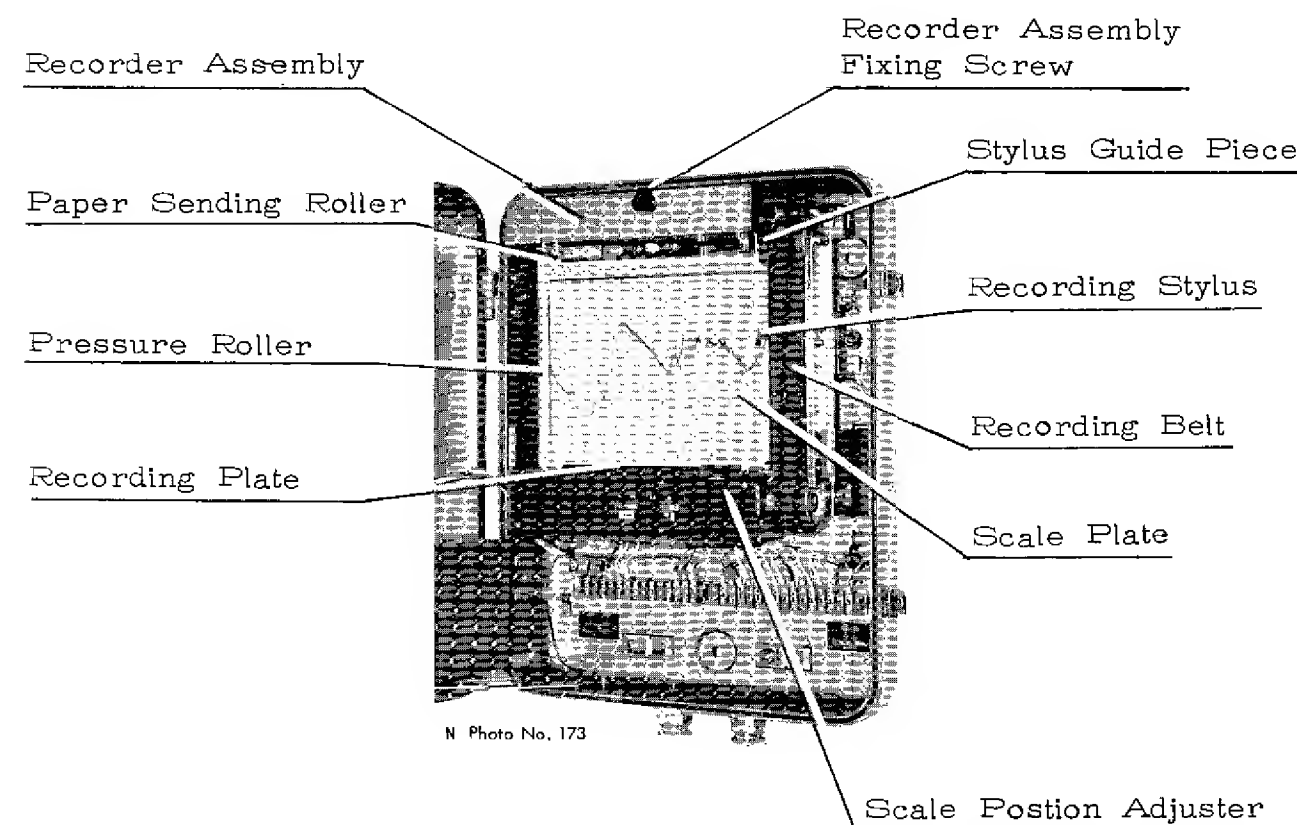

Fig.2-3 Recorder with Cabinet Door opened
3. Remove the scale plate. See Fig.2-3.
4. Release the pressure roller by pulling it up. See Fig.2-3.
8. Place the paper between the stylus guide piece and the recording plate (ref. Fig.2-3), also between the paper sending roller and the pressure roller.